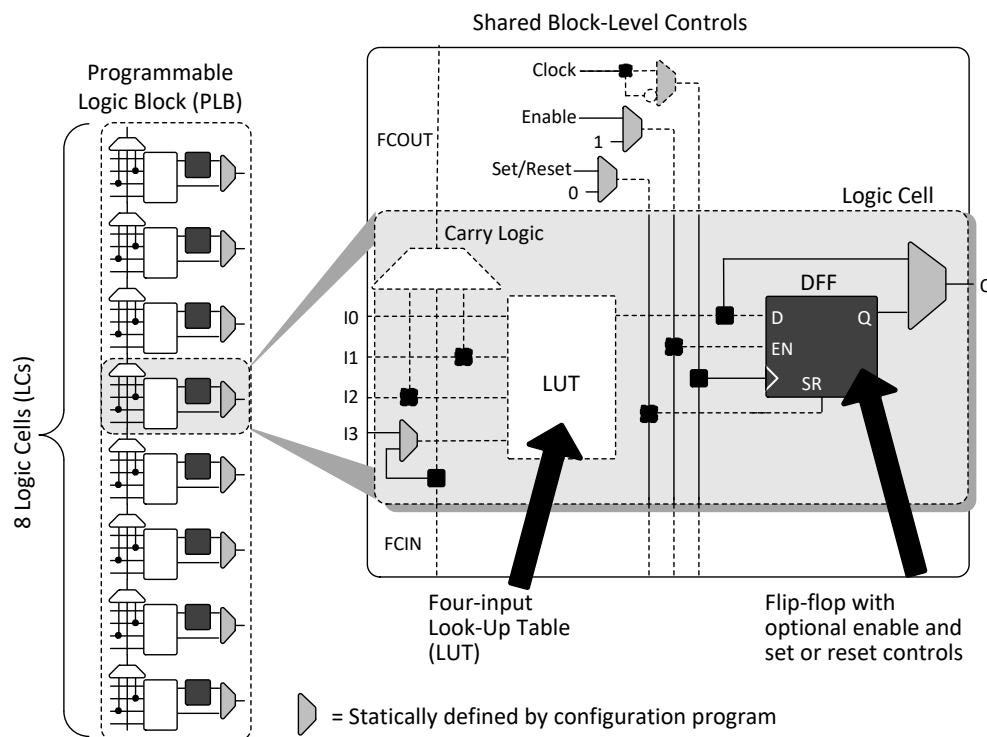

Figure 3.2. PLB Block Diagram
The core of the iCE40 UltraPlus device consists of Programmable Logic Blocks (PLB) which can be programmed to perform logic and arithmetic functions. Each PLB consists of eight interconnected Logic Cells (LC) as shown in Figure 3.2. Each LC contains one LUT and one register.
Each Logic Cell includes three primary logic elements shown in Figure 3.2.